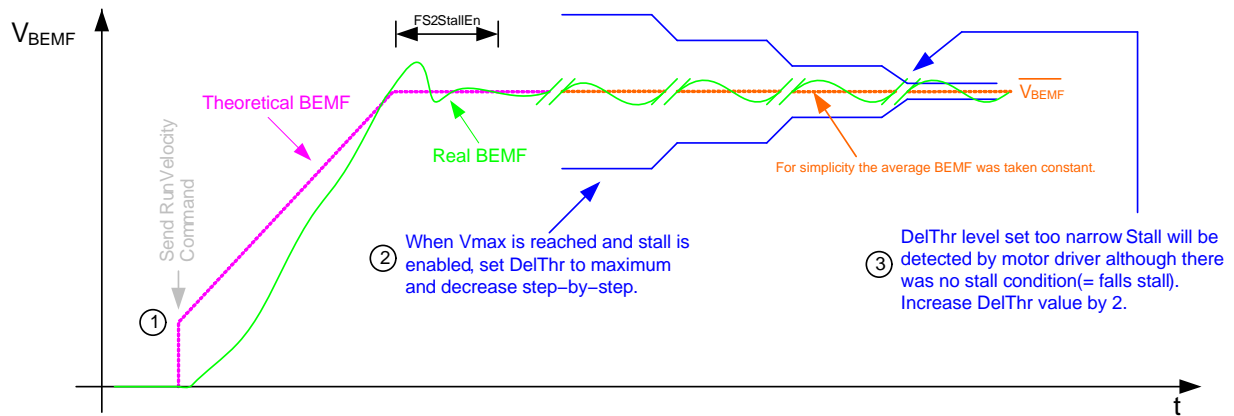

Figure 38. Defining DelThr for a Free Running Motor (Not Applicable for the NCV70627)
Step 4a: When spinning at maximum velocity ( $V_{max}$ ), set DelThr to the maximum value. If the motor is still rotating, decrease DelThr. Do this until the motor stalls without hitting an end position (= falls stall). If falls stall is detected, the DelThr value is set too narrow. Increase the (hexadecimal) value by 2 (if possible) to have a good DelThr setting. See also Figure 38.